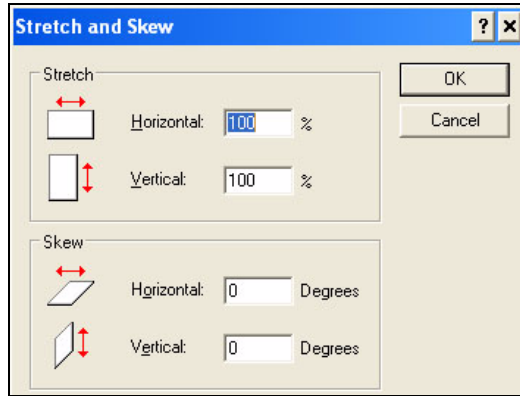

Figure 5-61: Image stretch and skew
**Note:** If the logo size is bigger than required, navigate to *Image > Stretch/Skew*. Enter the appropriate values to stretch/skew the images in vertical and horizontal directions (Figure 5-61). Ensure to enter equal values in horizontal and vertical columns.